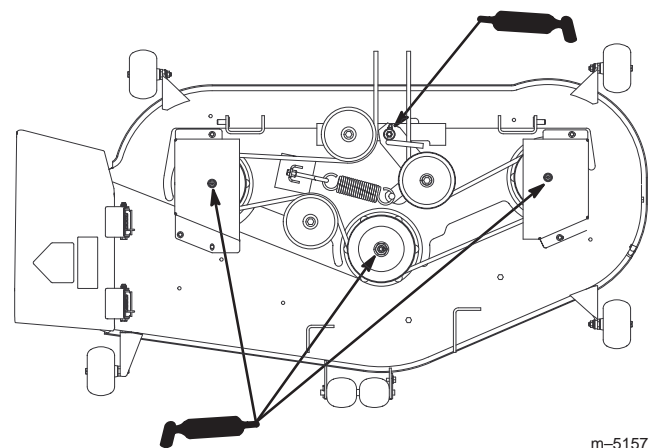

Figure 31
2. Grease the fittings on the three spindle bearings (Fig. 31).
3. Grease the idler pulley pivot (Fig. 31).